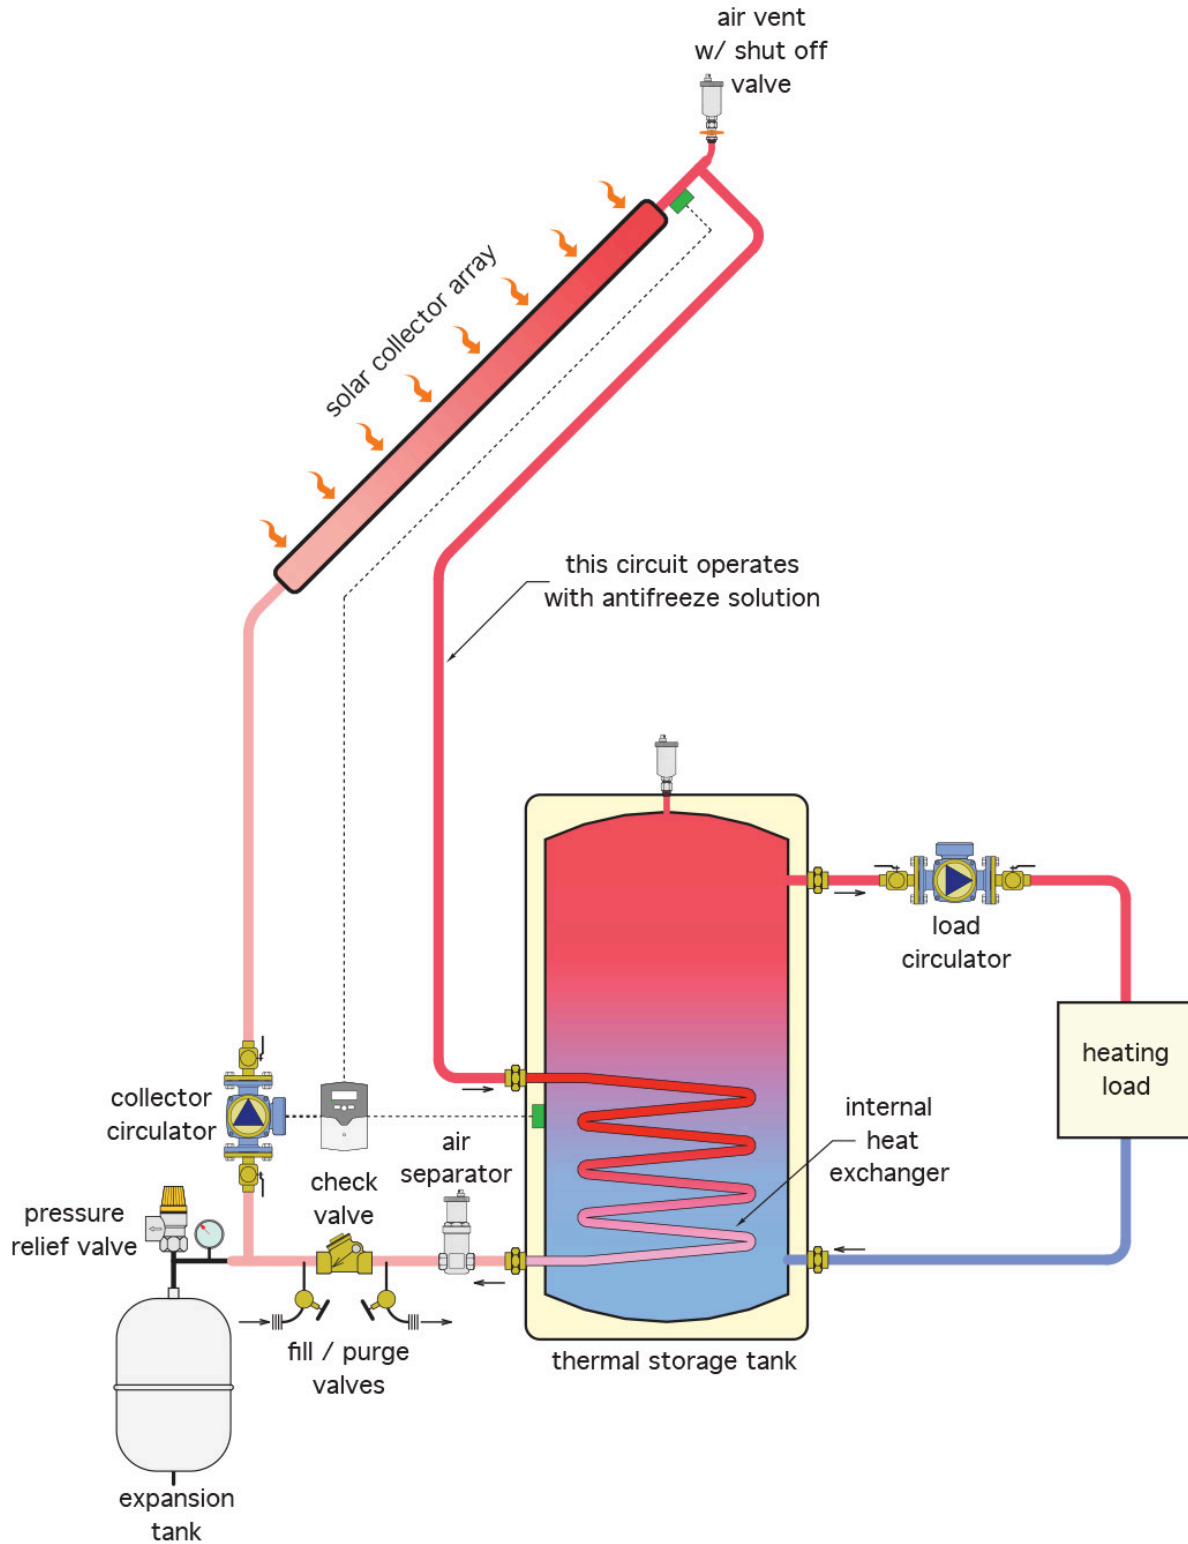

Figure 2 Closed-loop antifreeze system using storage tank as heat exchanger
- Figure 2 Passive solar DHW system © Caleffi Hydronic Solutions. Used with permission.
One option for freeze protection is to use antifreeze in the piping between the collector and storage tank. This is known as a closed-loop antifreeze system and is shown in Figure 2 below.